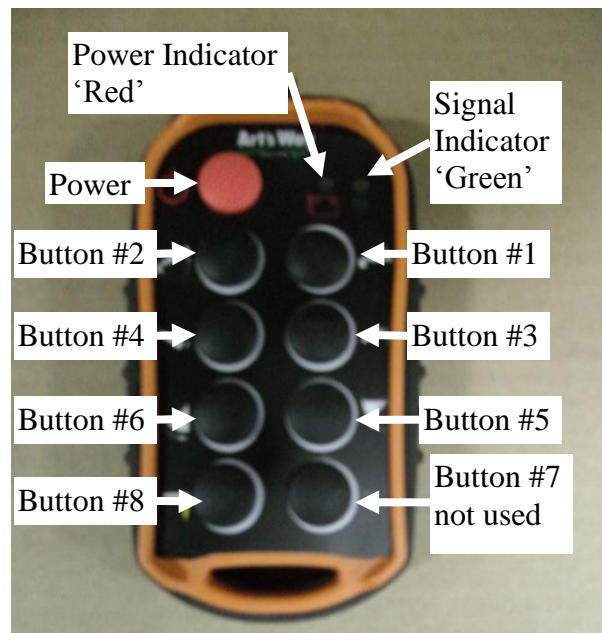
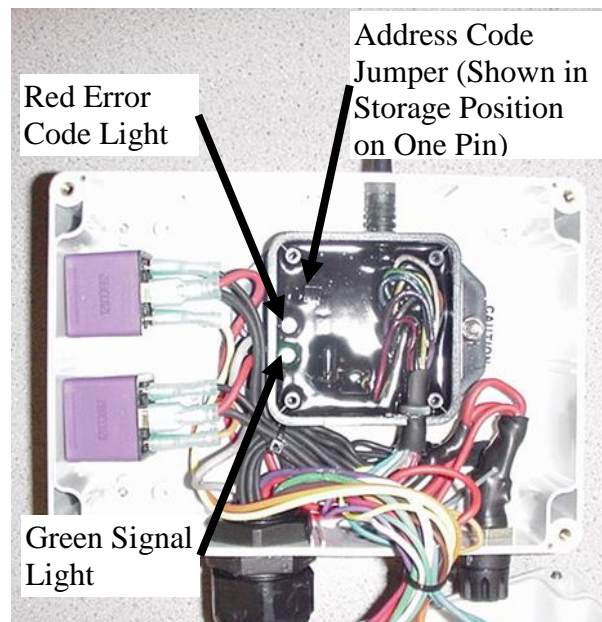

Figure 97 – Macro-Wireless Remote Control device button programming (for functions see Figure 100).
Figure 98 – Receiver in Complete Control Box with covers removed.
The control valve is electrically actuated from a Remote Control device (See Figure 97).
NOTE: An internal **rechargeable lithium ion battery** supplies power for the **Macro-Remote Control** (Figure 97).
The Remote Control (see Figure 97) is shipped with all button functions in momentary mode and already synchronized with the Receiver (see Figure 98).
To set Discharge Start/Stop button to latching mode the remote must be in configuration mode. Remove the cover from the Receiver so the LED's are clearly visible (see Figure 98).
2. Turn power on Remote Control (POWER button Figure 97).
3. Simultaneously push buttons #1, #4, & #8 (see Figure 97).
6. Push button #8 (Discharge Auger Start/Stop) (see Figure 97).
1. Remove the cover from both the Complete Control Box and the integrated Receiver (see Figure 98).
3. Place the jumper across the both address code pins inside the Receiver (see Figure 98). Both green and red lights will toggle inside the Receiver.
5. On the Remote Control press and hold the POWER button, button #1, & button #8 (see Figure 97). At this point, both lights will blink on the Remote Control transmitter.
1. With the Remote Control power off press and hold buttons #3, #4, and #8 and then POWER (see Figure 97).